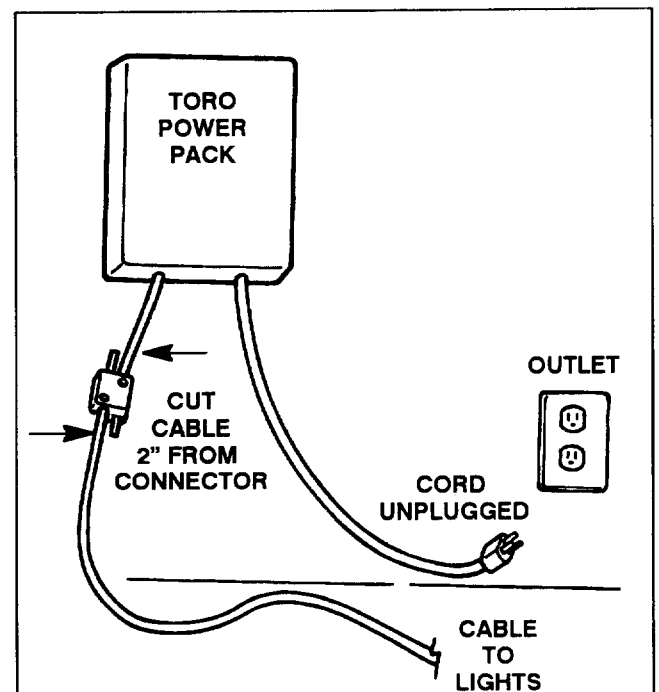

Figure 2
1. Cut both cables off about two inches away from the cable connector (Fig. 2) to eliminate any melted cable.